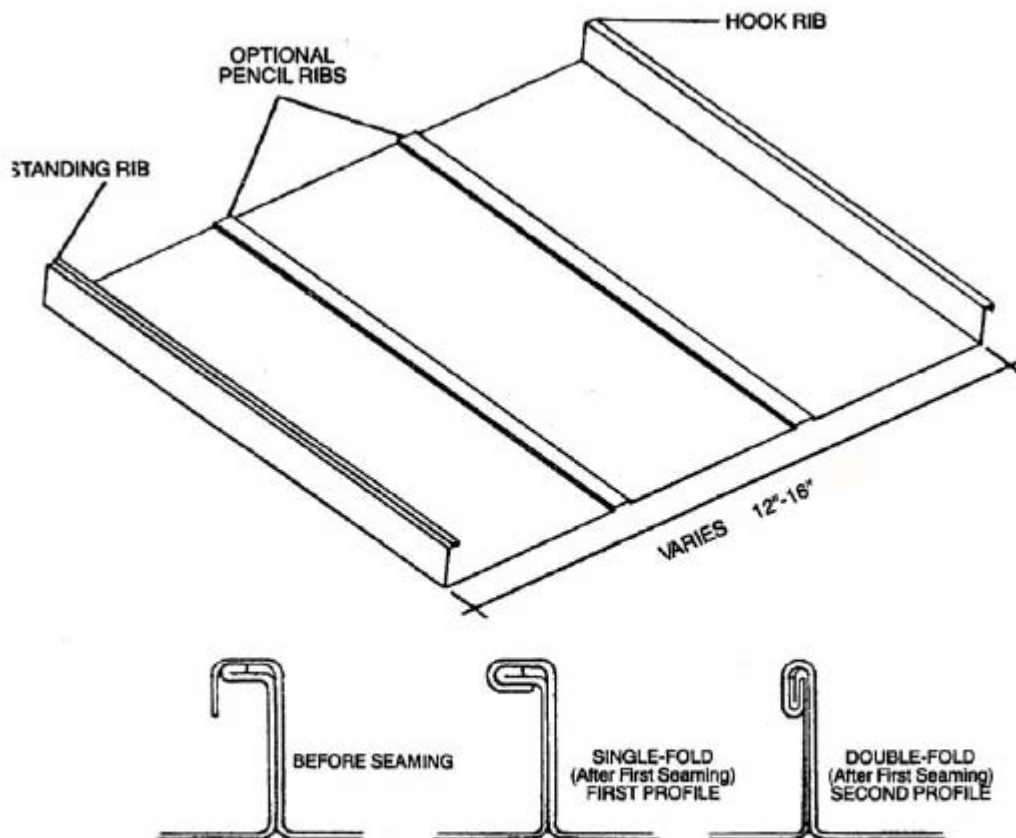
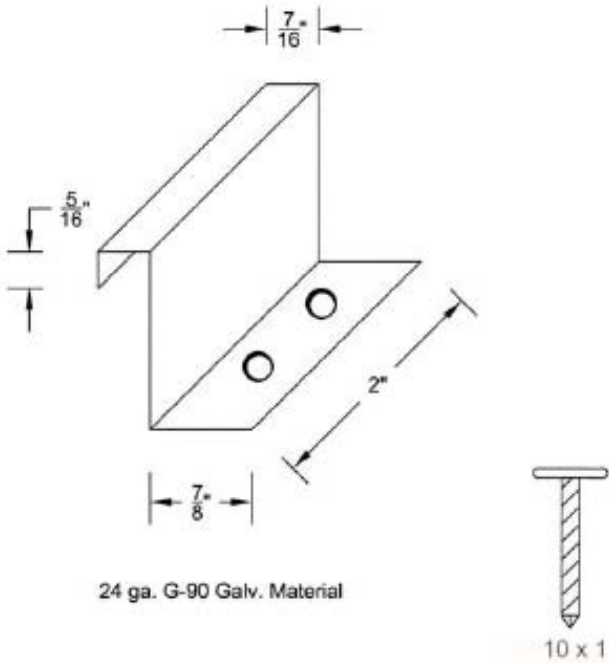

FIGURE 1—CB-150 PANEL
FIGURE 2—CB-150 ANCHOR CLIP
Custom-Bilt standing seam roof panels are fabricated in steel and are available in the CB-150 and SL-1750 profiles. The panels are roll-formed at the jobsite to provide the standing seams between panels. See Figures 1 and 3 for panel profiles.
- CB-150: This profile is formed to 12- or 16-inch-wide (305 or 406 mm) panels, with 1¹/₂-inch-high (38 mm) mechanically locking seams. See Figure 1.
Panel clips are supplied by Custom-Bilt, and are fabricated from ASTM A 653 sheet steel with a zinc coating designation of G90, and a base-metal thickness of 0.024 inch [0.61 mm (No. 24 gage)] for the CB-150 and 0.048 inch [1.22 mm (No. 18 gage)] for the SL-1750. See Figures 2 and 4 for panel clips and dimensions.
4.2.1 CB-150: The CB-150 roof panels are installed on roofs having a minimum slope of 2:12 (17 percent). The roof panels are installed over the optional underlayment and secured to the sheathing with the panel clip shown in Figure 2. The clips are located at each panel rib side lap spaced 6 inches (152 mm) from all ends and at a maximum of 4 feet (1.22 m) on center along the length of the rib, and fastened with a minimum of two No. 10 by 1-inch pan head corrosion-resistant screws. The panel ribs are mechanically seamed twice, each pass at 90 degrees, resulting in a double-locking fold as shown in Figure 1.